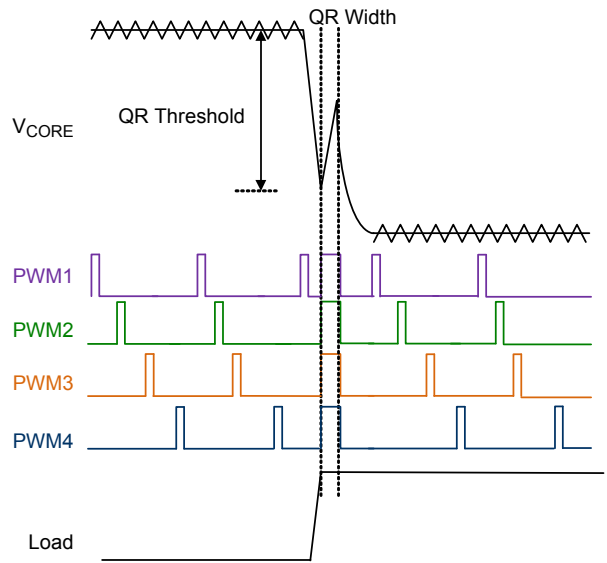
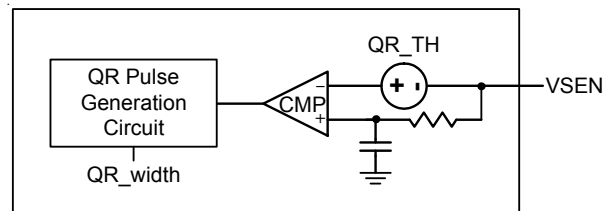

Figure 21. Quick Response Mechanism
Figure 22. Simplified QR Trigger Schematic
**Quick Response (QR) Mechanism**
When the transient load step-up becomes quite large, it is difficult for loop response to meet the energy transfer. Hence, that output voltage generate undershoot to fail specification. The RT3607HP has Quick Response (QR) mechanism being able to improve this issue. It adopts a nonlinear control mechanism which can disable interleaving function and simultaneously turn on all UGATE one pulse at instantaneous step-up transient load to restrain the output voltage drooping. Figure 21 shows the QR behavior.
The output voltage signal behavior needs to be detected so that QR mechanism can be triggered. The output voltage signal is via a remote sense line to connect at the VSEN pin which is shown in Figure 22. The QR mechanism needs to set QR width and QR threshold. Both definitions are shown in Figure 21. A proper QR mechanism set can meet different applications. The SET2 can set QR threshold and QR width by internal current source 80μA with multi-function pin setting mechanism.